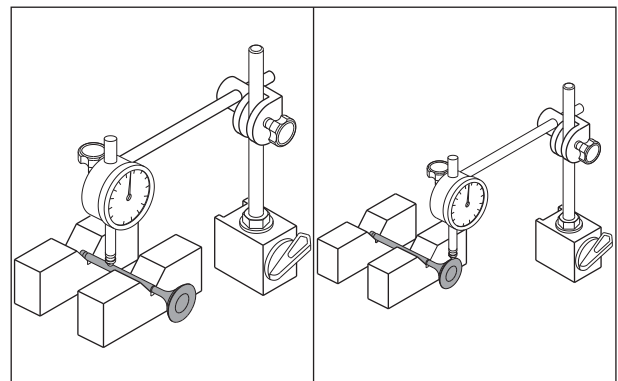

Fig. 3.65
- Using the special tools, measure the runout on valve stem and valve head. Replace the valve with new one if runout exceeds the service limit. (Fig. 3.65)